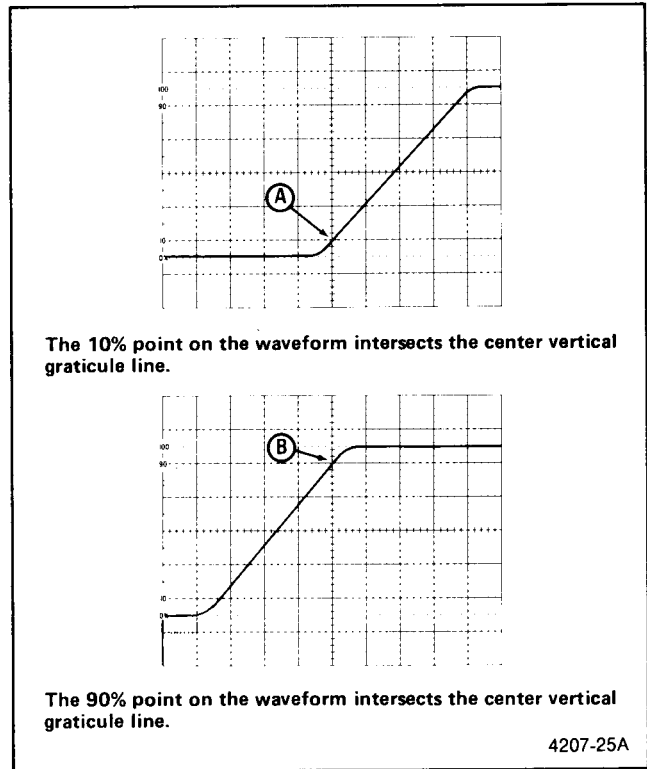

Figure 4-15. Rise time, differential time method.
3. Vertically position the trace so that the zero reference of the waveform touches the 0% graticule line and the top of the waveform touches the 100% graticule line (see Figure 4-15).
6. Select the B HORIZONTAL MODE. Adjust the B DELAY TIME POSITION control until the display intersects the 10% point at the center vertical graticule line (see Figure 4-15, Point A).
8. Adjust the B DELAY TIME POSITION control until the display intersects the 90% point at the center vertical graticule line (see Figure 4-15, Point B).